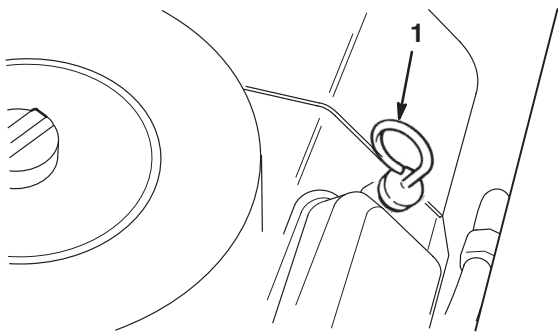

Figure 4
3. Pull out the dipstick (Fig. 4) and wipe it with a clean rag. Insert the dipstick into the tube and make sure that it is seated fully. Remove the dipstick from the tube and check the oil level. If the oil level is low, remove the filler cap from the valve cover (next to the dipstick) and add enough oil to raise the level to the FULL mark on the dipstick.